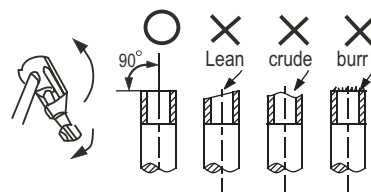

Fig.7-5
- Cut a pipe with a pipe cutter. (Refer to Fig.7-5)